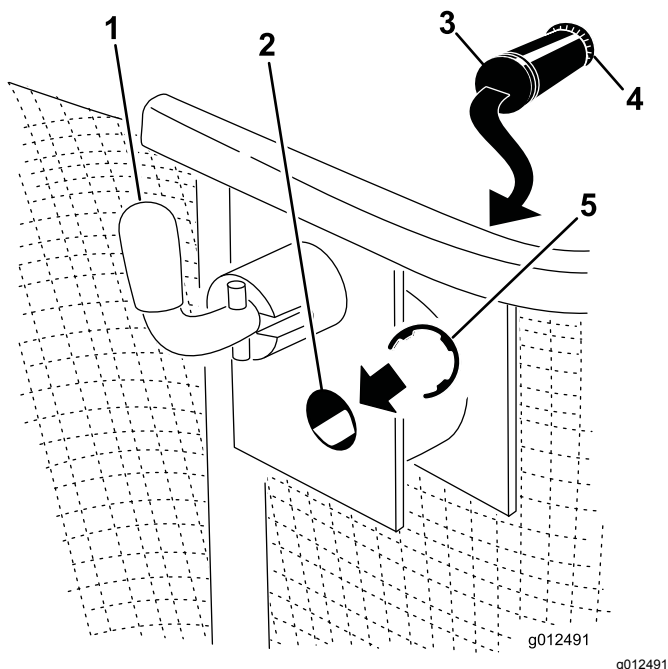

Figure 2
1. Install a push nut onto the end of each hinge pin and slide it to within an 1/8 inch (3 mm) from the end of each pin (Figure 2).
2. Slide the collector into the dump frame so that the holes in the dump frame line up with the holes in the sides of the collector (Figure 2).
3. Push a hinge pin through the holes on each side from inside the collector, and secure each on the outside using a snap ring installed into the groove on the pin (Figure 2).
4. Turn the locking pin down to lock the dump frame in place (Figure 2). Refer to the *Operator's Manual* for more information.